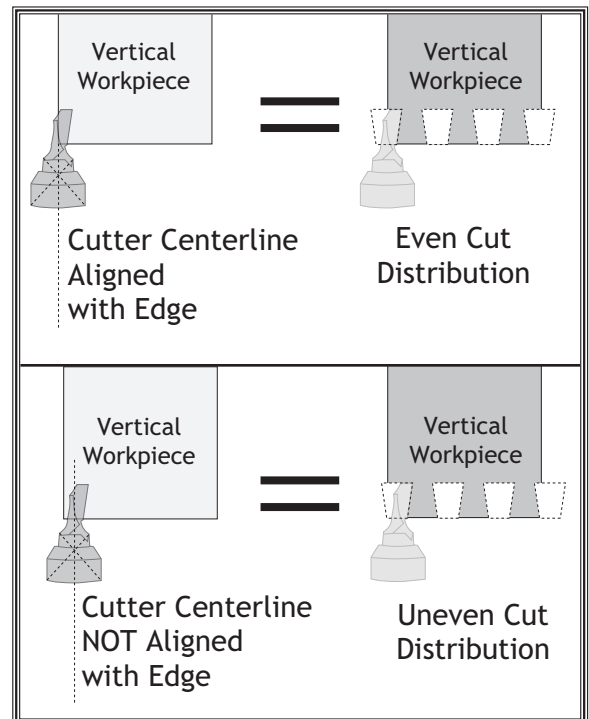

Figure 27. Aligning cutter start location with the vertical workpiece.
5. Align the left-hand edge of the vertical workpiece with the centerline of the cutter when the tracer pin is in the "in" or cutting position. This position will make the first cut in the vertical workpiece half the width of the cutter. **Figure 27** illustrates this concept.